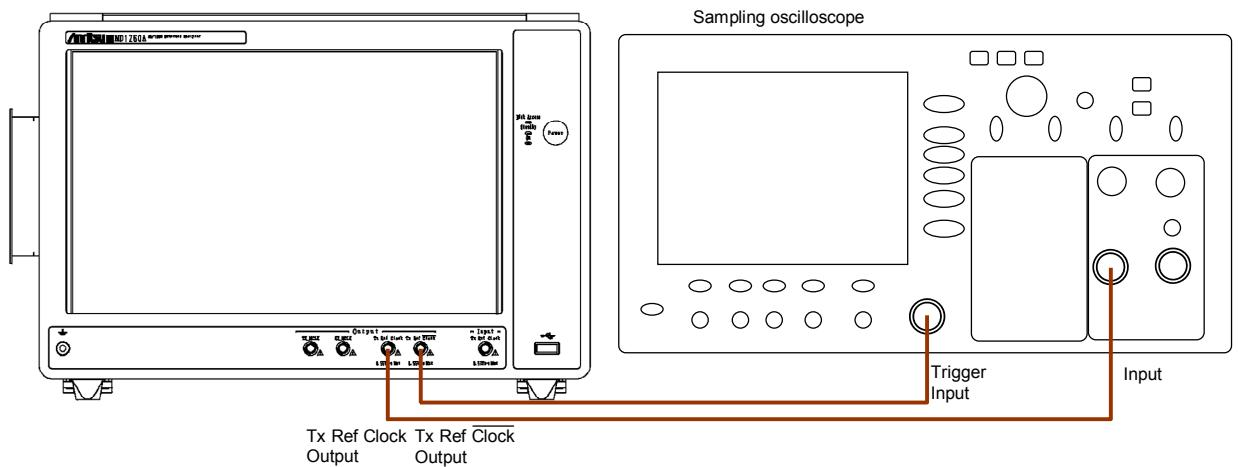

Figure 8.4-2 Measurement System for Tx Ref Clock Output terminal
1. Connect the 10 MHz Output terminal at the rear panel of the MD1260A and the sampling oscilloscope input (Figure 8.4-2 a).
2. Connect the Tx Ref Clock Output at the front panel of the MD1260A and the sampling oscilloscope trigger (Figure 8.4-2 a).
10. Connect the Tx Ref Clock Output terminal at the front panel of the MD1260A and the sampling oscilloscope input (Figure 8.4-2).